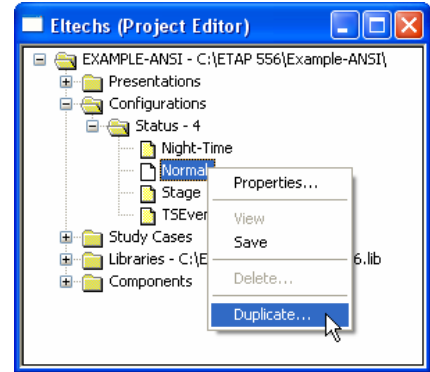

Fig. 8
- (c) Right-click the name of the configuration you wish to duplicate then click on “Duplicate...” command. See Fig. 8.